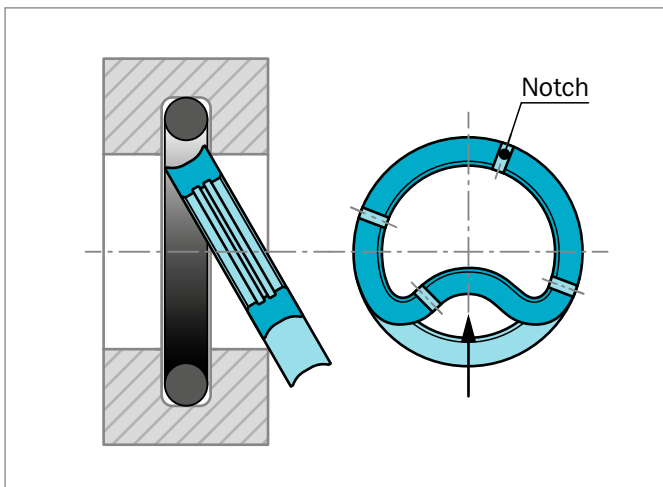
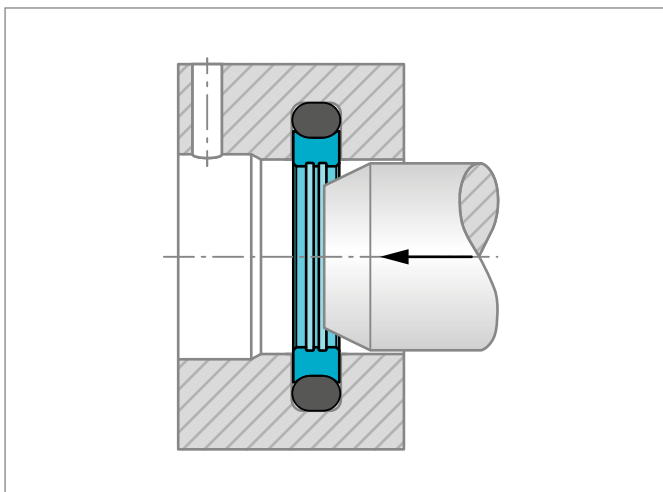

Figure 157: Installation of shaft Roto Glyd Ring® type in closed groove
Figure 158: Calibration of installed Roto Glyd Ring®
- Fold the Turcon® seal ring into a kidney shape (see Figure 157).
- 5) The Turcon® Roto Glyd Ring® V seal ring, with Quad-Ring® installed, is compressed into a kidney-shape and placed in the groove, see Figure 157 and Figure 158.
- 8) Calibrate the seal, see Figure 158.
In order to avoid damage during installation, lead-in chamfers and rounded edges must be provided on the shaft or housing (see Figure 157 and Figure 158). If this is not possible for design reasons, a separate installation tool is recommended.